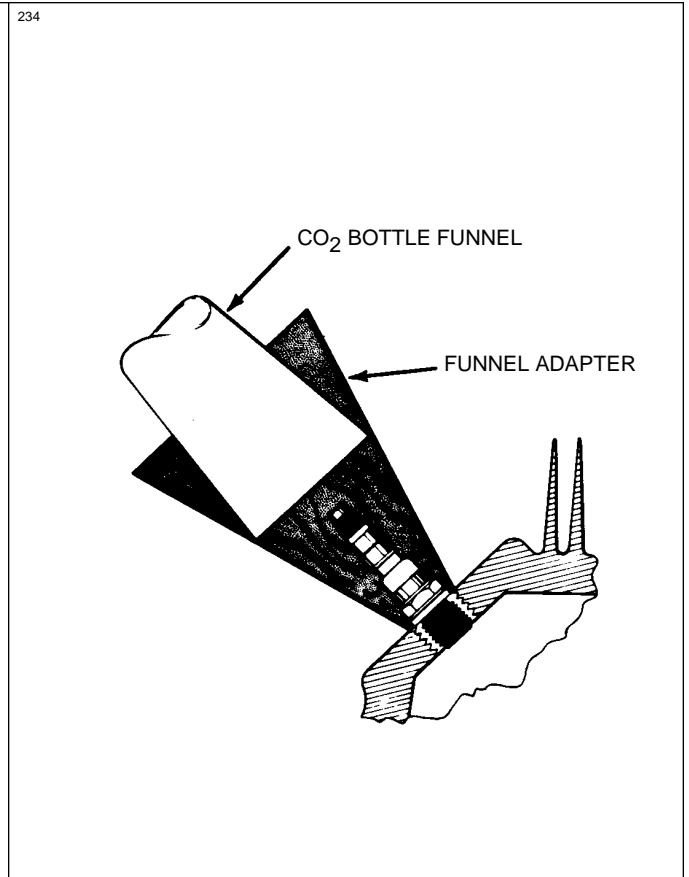

Figure 8-27 Removing Spark Plug Frozen to Bushing
8-38. REMOVAL OF SPARK PLUGS. (Refer to Figure 8-27.)
d. Removal of seized spark plugs in the cylinder may be accomplished by application of liquid carbon dioxide by a Conical metal funnel adapter with a hole at the apex just large enough to accommodate the funnel of a CO₂ bottle. (Refer to Figure 8-27.) When a seized spark plug cannot be removed by normal means, the funnel adapter is placed over and around the spark plug. Place the funnel of the CO₂ bottle inside the funnel adapter and release the carbon dioxide to chill and contract the spark plug. Break the spark plug loose with a wrench. A warm cylinder head at the time the carbon dioxide is applied will aid in the removal of an excessively seized plug.